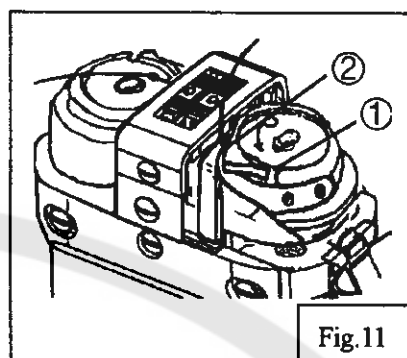
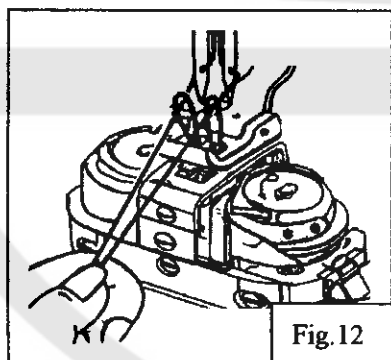

Fig.11
Fig.12
7. Threading of bobbin thread (Fig.11, Fig.12):
- 1) Flap down the latch lever, from the slit 1 of the hook, pass the thread through underneath of the hook body 2, pull the thread outside (Fig.11);
- 2) While holding the needle thread by left hand, rotate the hand wheel one turn by right hand. By pulling up the needle thread, the bobbin thread will be lifted. Close the slide plate (Fig.12)